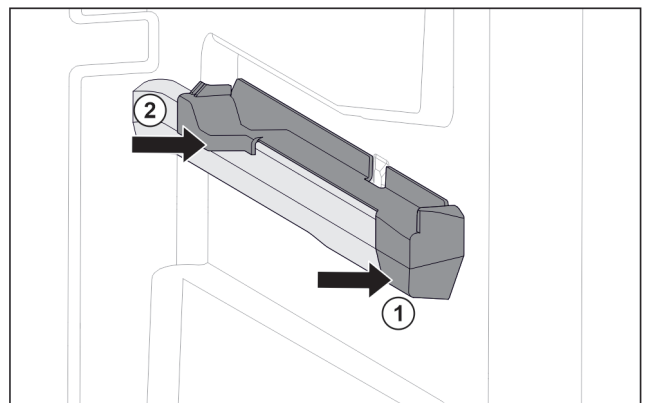

Fig. 84 Attachment on the right moulded rib
- ▶ Position attachment on moulded rib at the front. Fig. 84 (1)
- ▶ Press on attachment at the back. Fig. 84 (2)